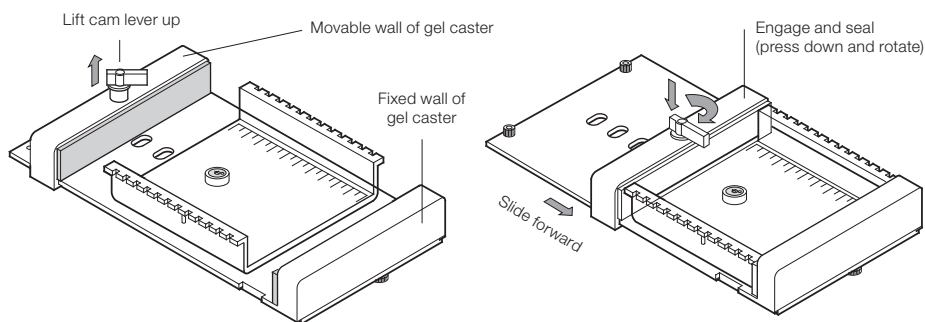

Fig. 1. Sealing the UVTP tray for gel casting.
4. Slide the movable wall against the edge of the UVTP tray (Figure 1).